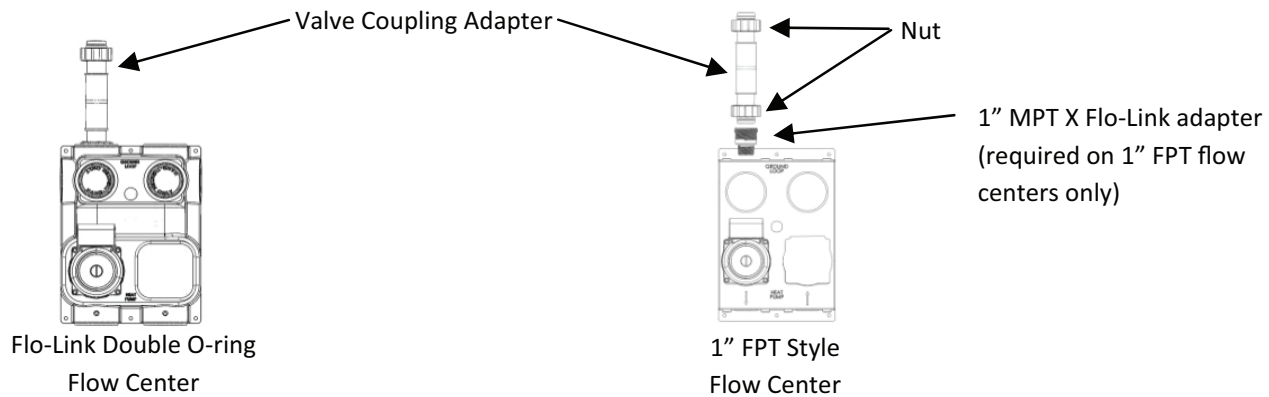

Figure 6: Flow centers with Valve Coupling Adapter. A 1" MPT x Flo-Link fitting is available to transition to 1" FPT style flow centers.
2. Insert the included Valve Coupling Adapter into the female port of the flow center or pump (Figure 6). Note that a 1" MPT x Flo-Link female fitting is available to transition to a 1" FPT flow center. Lubricate the O-rings on both ends of the Adapter to aid in installation. The Adapter should be pushed straight into the port. DO NOT rock the Adapter left-to-right or front-to-back in the female port of the flow center.